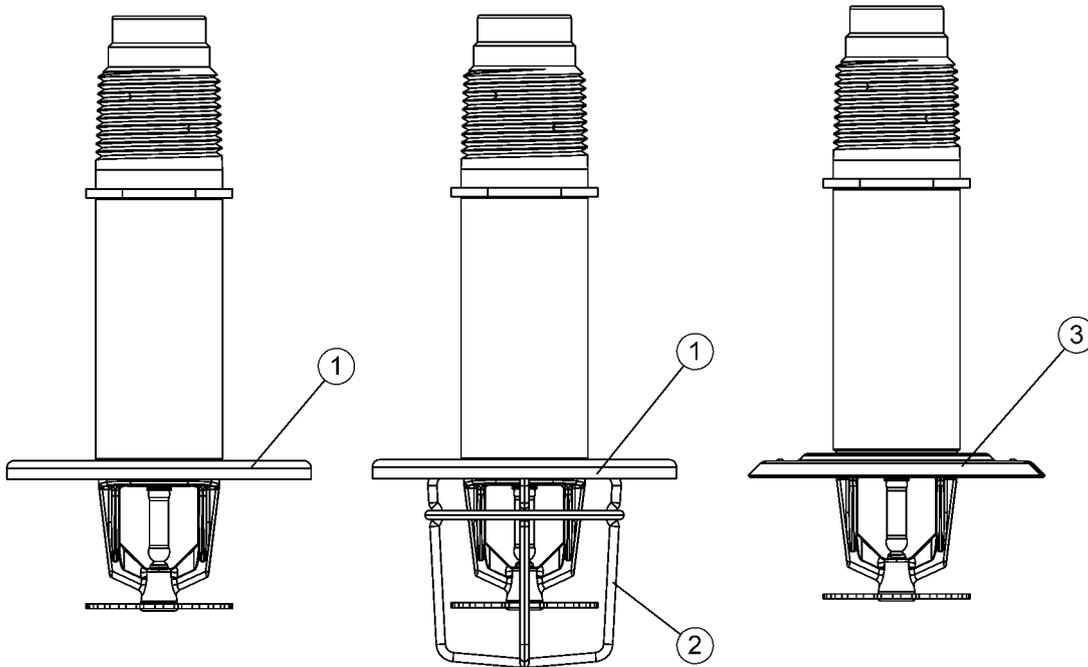

Fig. 10: Accessories dry sprinkler
- Fig. 10/1: Ex works pre-assembled baffle plate (can only be ordered via configurator)
- Fig. 10/2: In addition to the baffle plate retrofitted sprinkler guard (part no. 917533)
- Fig. 10/3: Retrofittable baffle plate in two parts (part no. 930724)